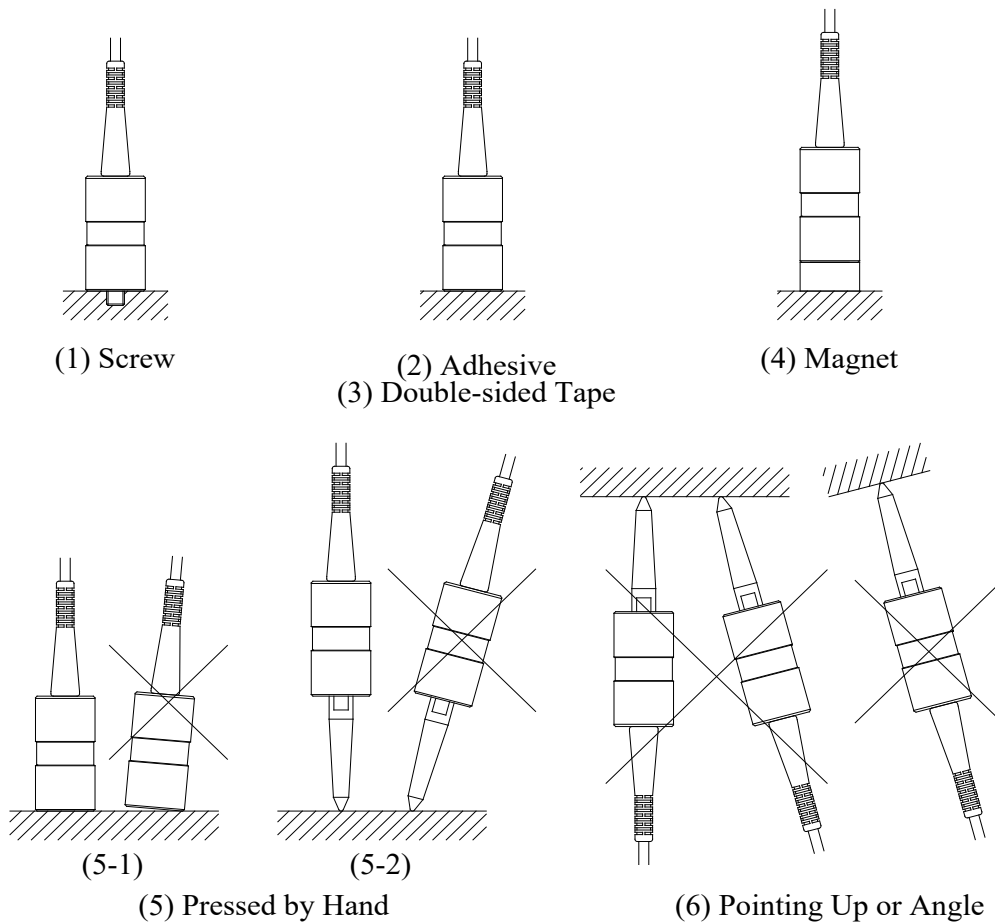

Fig.10-1 How to Fix the pickup
Pickup fixing methods include (1) Screw mounting, (2) Instant adhesive, (3) Double-sided adhesive tape (thin and strong material), (4) Magnet, and (5) pressed by hand (Fig.10-1).